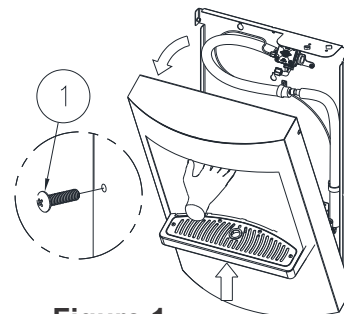

Figure 1.
- 1. Access Filter Compartment:** Remove screws [1] at the top of the bottle filler to free the face from the Housing Back Plate Assembly and lower to fully open position. **Figure 1.**